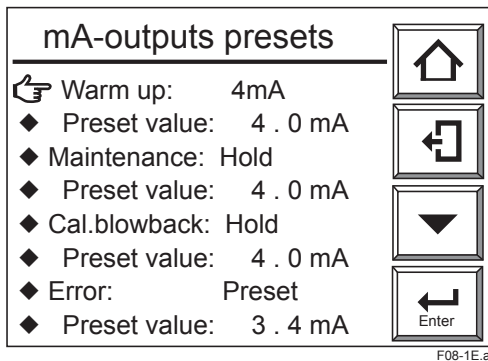
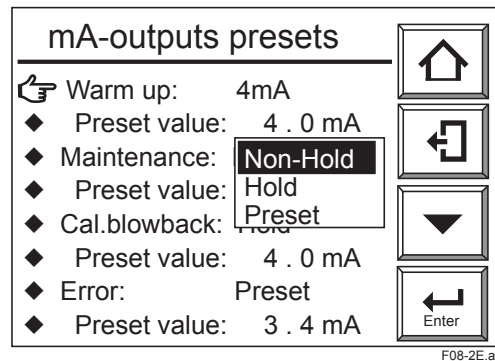

Figure 8.1 "mA-outputs presets" Display
Figure 8.2 Selecting Maintenance
- (1) Press the [Setup] key in the Basic panel display to display the Execution/Setup display. Then select "Commissioning" in the Execution/Setup display. Next, select the "mA-output setup" and "Set presets", then the "mA-outputs presets" display as shown in Figure 8.1.
- (2) From this display (Figure 8.1), select the desired display. Figure 8.2 shows an example of selecting "Maintenance". Select the desired output status.
- (3) If a preset value is selected, set the corresponding output current. If you select a preset value just below Maintenance on the screen, the numeric-data entry display will appear. Enter the current value you want. To set 10 mA, type in 010 and press the [Enter] key to complete the setting. The setting range is from 2.4 to 21.6 mA.